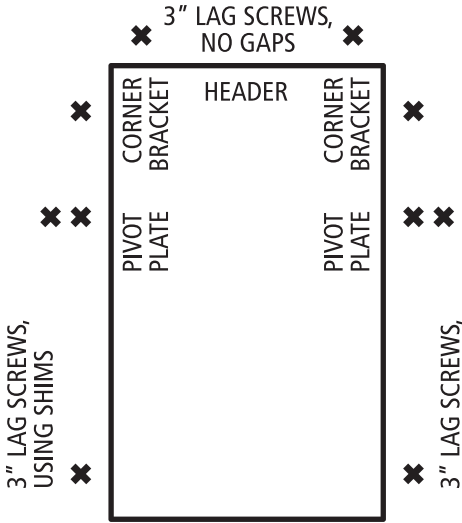
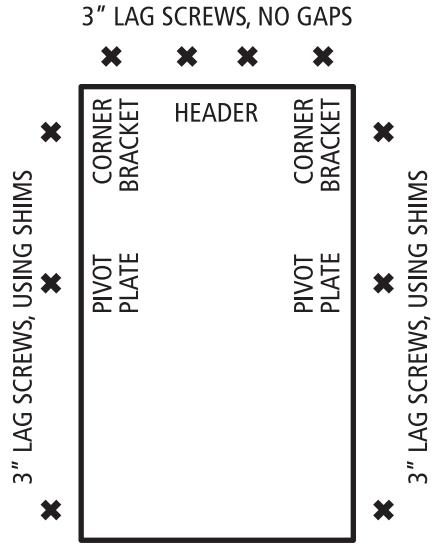

FIGURE 8: Wood series
FIGURE 9: Aluminum series
A. The ladder comes with pre-drilled holes for permanent installation at locations shown in Figure 8 for wood models and Figure 9 for aluminum models. Shim, when necessary to fill space between ladder frame and rough opening, at pre-drilled locations. Using  $\frac{1}{8}$ " drill bit, drill pilot holes through shim into ceiling joists and header.